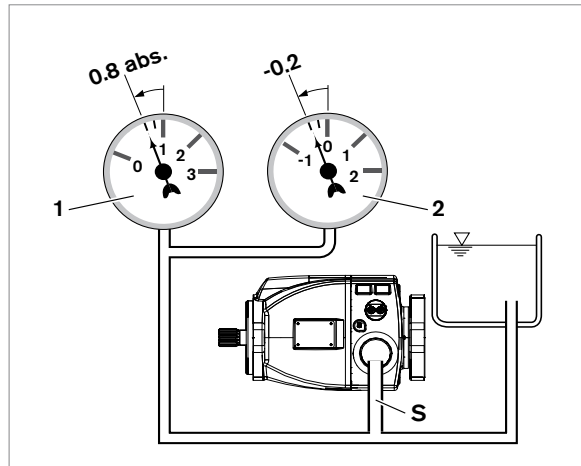

Fig. 6: Suction pressure
- ▶ Make sure that a minimum suction pressure of 0.8 bar absolute is present at port "S" during operation for all installation positions and installation locations of the axial piston pump; see Fig. 6. Please note that the values stated in the data sheet for the maximum speed are valid for a suction pressure of 1 bar absolute at suction port S. See data sheet for pressure values.